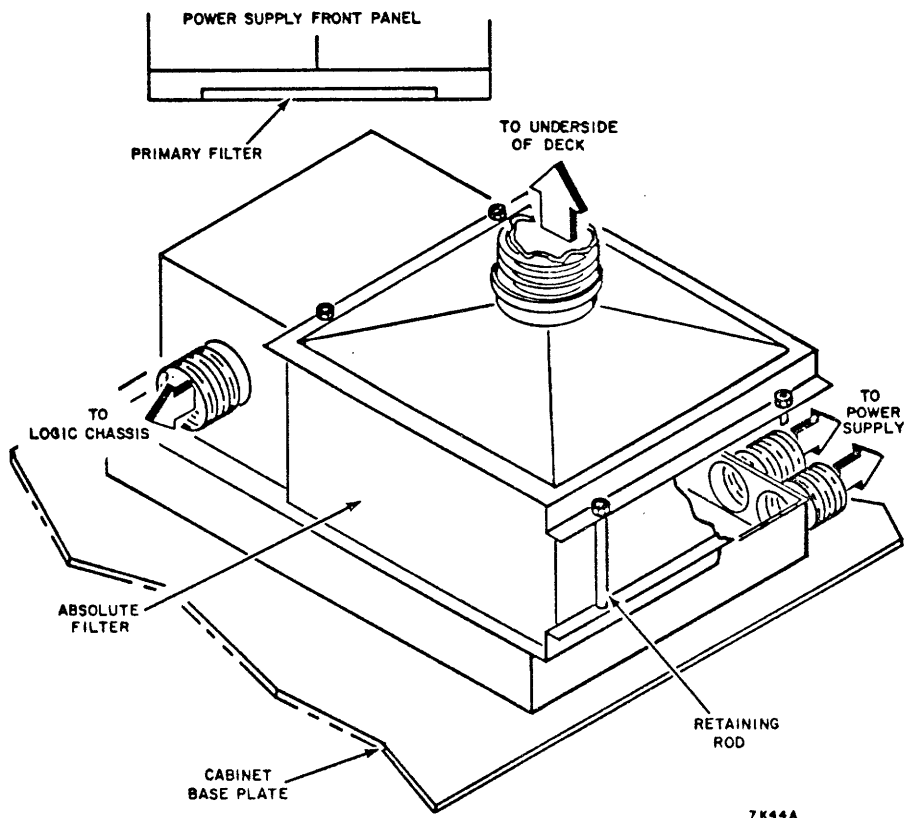

Figure 6-1. Cabinet Filters
3. Remove primary filter (Figure 6-1).
2. Refer to Figure 6-1 and loosen four retaining rods securing filter.